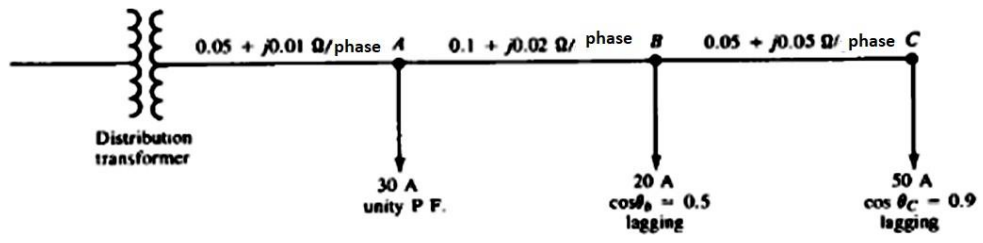

Figure: 1
b) Consider the three – phase three- wire 416- V secondary system with balanced loads at A, B and C as shown in Figure 1, determine the following: [7M]